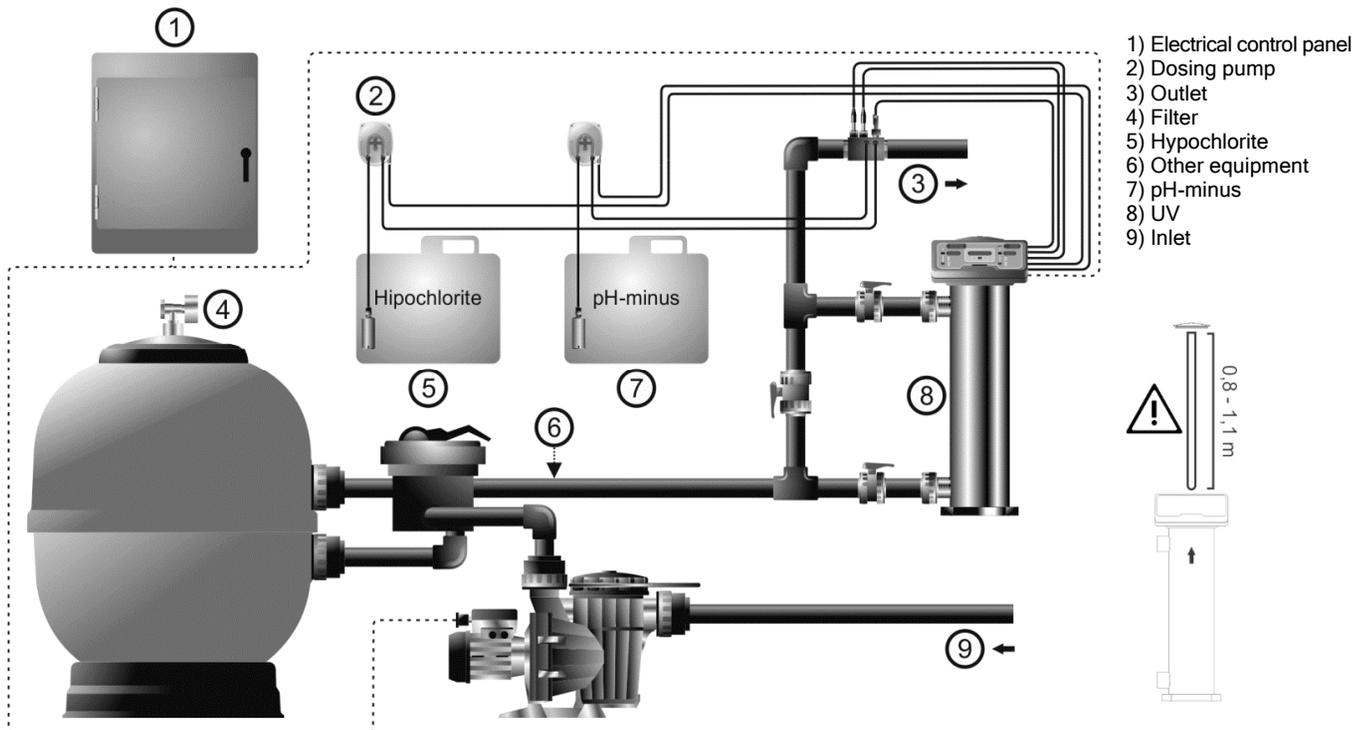
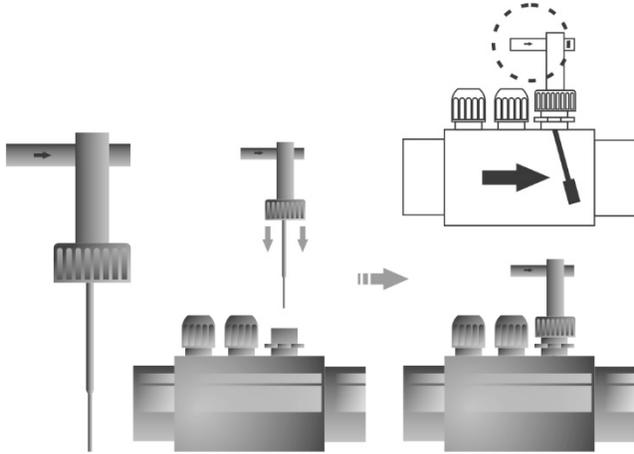
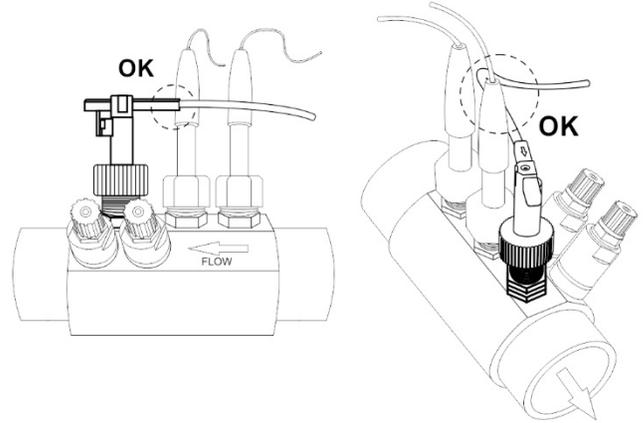

Fig. 1
Fig. 2b
Fig. 3b
The UV LP/LP+ system should always be installed VERTICALLY on the floor, as shown in the recommended installation diagram (Fig. 1). To guarantee that the equipment remains in good condition, it should always be installed in a dry, well-ventilated location in the pump house. The UV LP/LP+ treatment systems are not waterproof and must be installed under cover.
1. Glue the supplied probe housing (PVC, 63mm dia.) into a section of piping after the UV by-pass (fig. 1). The probe housing must always be installed horizontally (see fig. 2b) and with the threaded inlets (1/2"G - 3/8"G) accessible for later installation of the pH-minus and Hypochlorite injectors (see fig. 3b).
2. Install the supplied flow switch vertically in the probe housing (Fig. 2b).
3. The flow switch has an arrow mark on the top. Make sure that the arrow points in the direction of water flow (Figs 2b and 3b).